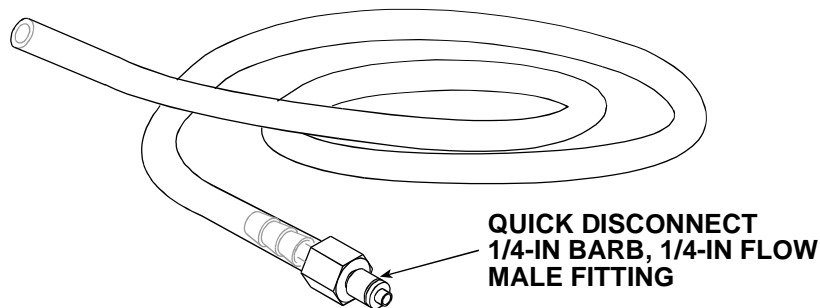

Figure 7 Ink Pump Supply Tubing Assembly (9600-074)
- 9600-074 ink pump supply tubing assembly (*Fig. 7*)